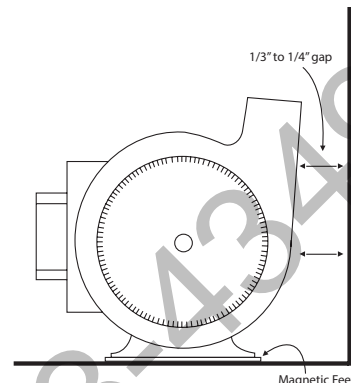

Fig. 2 Mounting Fan
5. Pull the fan housing slightly away from the metal back wall (1/8" to 1/4"). The magnetic feet will hold the housing in place. (See Fig. 2)